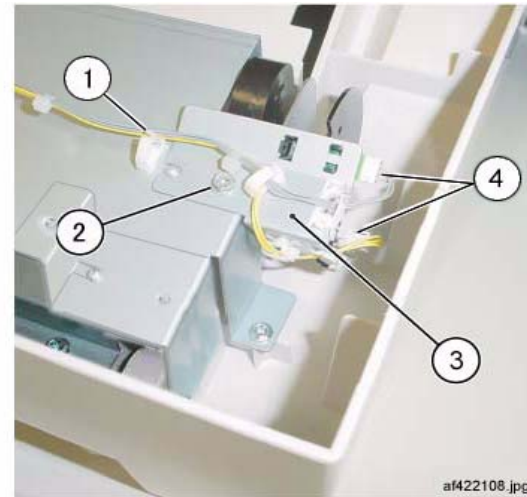

Figure 1 Removing the Stacker Stack Sensor Assembly
6. Remove the Stacker Sensor Assembly (Figure 1):